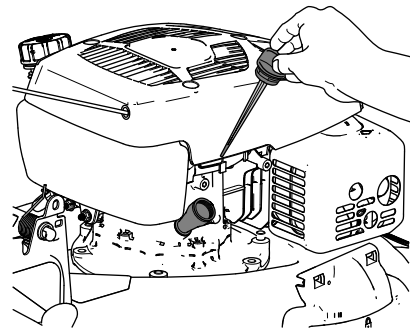

Figure 28
3. Remove the dipstick by rotating the cap counterclockwise and pulling it out (Figure 28).
4. Tip the machine onto its side (so that the air filter is up) to drain the used oil from the oil-fill tube (Figure 28).